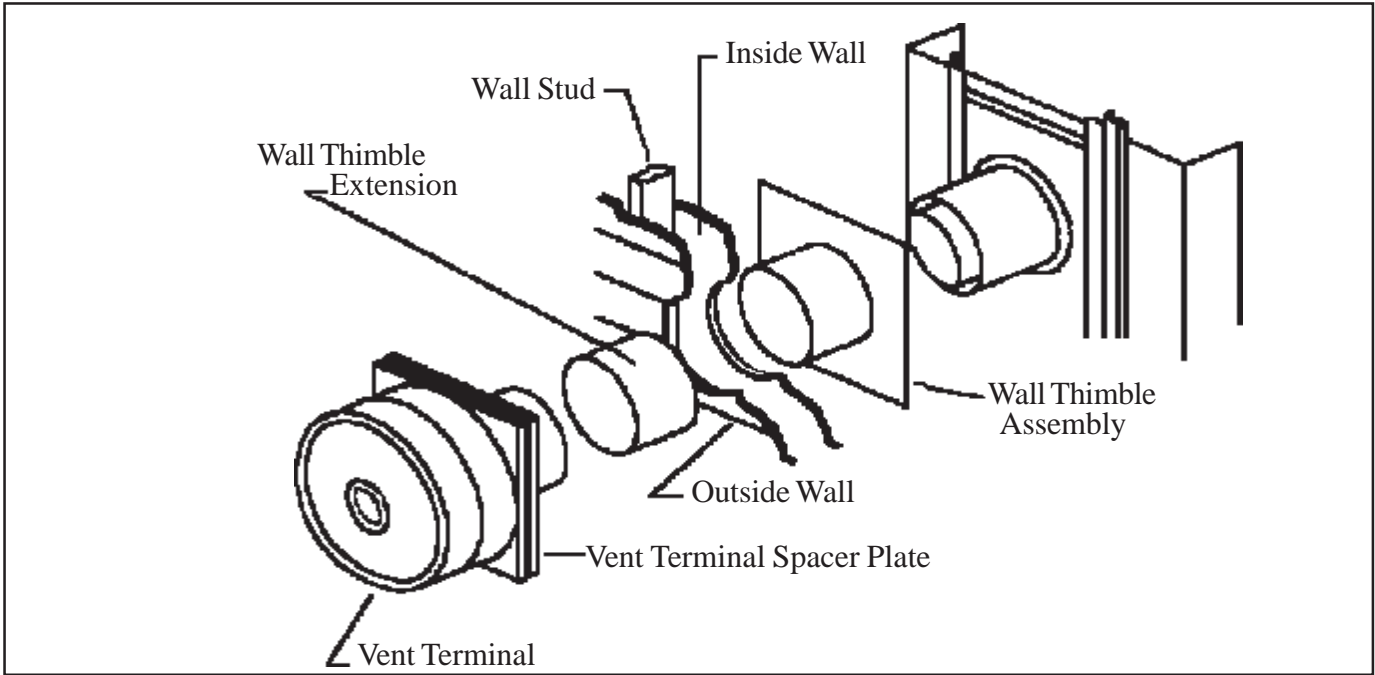

FIGURE 7
**STEP 3. INSTALLING FURNACE – 5" TO 9" WALLS.** Use only the exhaust tube, air intake tube, wall thimble extension, and vent terminal provided with furnace. Do not attempt to lengthen the exhaust or air intake tubes, this could cause an imbalance in the furnace resulting in poor performance and pilot outage, see Figure 6. Extend the telescoping wall thimble extension (surrounding the wall thimble assembly) to approximately 9 inches. Center the wall thimble assembly in the 9 inch opening and attach to inside wall using eight (8) screws. The wall thimble extension should extend through the opening and be adjusted so end of wall thimble extension is even with outside wall. Install furnace flush to wall by sliding exhaust tube and air intake tube through the wall thimble assembly. Secure the furnace to the wall with screws through each of the four holes in the mounting brackets located on the back of the furnace. These holes are spaced so as to allow the screws to enter into studs that are on 16 inch centers. On certain types of wall, anchors (not provided) may be required. Slide the vent terminal onto the exhaust tube and the air intake tube. Secure vent terminal and vent terminal spacer plate to wall providing a slight downward slope to the vent tubes. This will prevent water from entering. Anchors (not provided) may be required. Caulk around vent terminal spacer plate with putty provided. See Figure 7. NOTE: Some framing may be necessary to provide a flat surface for the vent terminal spacer plate to butt against, so rain cannot enter through cut out.
9” to 15” wall use Vent Kit No. VK1525/9-15-B. Do not attempt to lengthen the exhaust tube, air intake tube, or wall thimble extension provided with furnace or the VK1525/9-15-B Vent Kit. Disconnect the air intake tube, and the exhaust tube from the back of the furnace and discard. See Figure 6. Replace with exhaust tube and air intake tube from Kit No. VK1525/9-15-B. Discard the 5” telescoping wall thimble extension that surrounds the wall thimble assembly. Center the wall thimble assembly in the 9” opening and attach to inside wall using eight (8) screws. Install furnace flush to wall by sliding exhaust tube and air intake tube through the wall thimble assembly. Secure the furnace to the wall with screws through each of the four holes in the mounting brackets located on the back of the furnace. These holes are spaced so as to allow the screws to enter into studs that are on 16-inch centers. On certain types of wall, anchors (not provided) may be required. From outside the building install the thick wall thimble extension, Part No. 43835, supplied in Vent Kit No. VK1525/9-15-B by sliding it through the cut out and over the wall thimble assembly. The wall thimble extension should be even with the outside wall (some trimming may be necessary). Slide the vent terminal onto the exhaust tube and the air intake tube. Secure vent terminal and vent terminal spacer plate to wall providing a slight downward slope to the vent tubes. This will prevent water from entering. Anchors (not provided) may be required. Caulk around the vent terminal spacer plate with putty provided. See Figure 7. NOTE: Some framing may be necessary to provide a flat surface for the vent terminal spacer plate to butt against, so rain cannot enter through cut out.
For 15” to 24” wall use only Vent Kit No. VK1525/15-24-B. Do not attempt to lengthen the exhaust tube, air intake tube, or wall thimble extension provided with furnace. The VK1525/15-24-B Vent Kit has a one inch restrictor in the exhaust tube which is necessary for proper and safe operation of this furnace. Do not use any other vent kit. Disconnect the air intake tube and the exhaust tube from the back of the furnace and discard, see Figure 6. Install the exhaust tube and air intake tube from Vent Kit No. VK1525/15-24-B. Discard the 5” telescoping wall thimble extension that surrounds the wall thimble assembly. Center the wall thimble assembly in the 9” opening and attach to inside wall using eight (8) screws. Install furnace flush to wall by sliding exhaust tube and air intake tube through the wall thimble assembly. Secure the furnace to the wall with screws through each of the four holes in the mounting brackets located on the back of the furnace. These holes are spaced so as to allow the screws to enter into studs that are on 16-inch centers. On certain types of walls, anchors (not provided) may be required. From outside the building install the wall thimble extension, Part No. 43730, supplied in Vent Kit No. VK1525/15-24-B by sliding it through the cut out and over the wall thimble extension. For walls 15” to 19” the wall thimble extension, air intake tube, and the exhaust tube must be trimmed even with the outside wall. Slide the vent terminal onto the exhaust tube and into the air intake tube. Secure vent terminal and vent terminal spacer plate to wall providing a slight downward slope to the vent tubes. This will prevent water from entering. Anchors (not provided) may be required. Caulk around the vent terminal spacer plate with putty provided, see Figure 7. NOTE: Some framing may be necessary to provide a flat surface for the vent terminal spacer plate to butt against, so rain cannot enter through the cut out.
Kit No. VK33/9-15-B. Do not attempt to lengthen the exhaust tube, air intake tube, or wall thimble extension provided with furnace or the VK33/9-15-B Vent Kit. Disconnect the air intake tube, and the exhaust tube from the back of the furnace and discard. See Figure 6. Replace with exhaust tube and air intake tube from Kit No. VK33/9-15-B. Discard the 5” telescoping wall thimble extension that surrounds the wall thimble assembly. Center the wall thimble assembly in the 9” opening and attach to inside wall using eight (8) screws. Install furnace flush to wall by sliding exhaust tube and air intake tube through the wall thimble assembly. Secure the furnace to the wall with screws through each of the four holes in the mounting brackets located on the back of the furnace. These holes are spaced so as to allow the screws to enter into studs that are on 16-inch centers. On certain types of wall, anchors (not provided) may be required. From outside the building install the thick wall thimble extension, Part No. 43835, supplied in Vent Kit No. VK33/9-15-B by sliding it through the cut out and over the wall thimble assembly. The wall thimble extension should be even with the outside wall (some trimming may be necessary). Slide the vent terminal onto the exhaust tube and the air intake tube. Secure vent terminal and vent terminal spacer plate to wall providing a slight downward slope to the vent tubes. This will prevent water from entering. Anchors (not provided) may be required. Caulk around the vent terminal spacer plate with putty provided. See Figure 7. NOTE: Some framing may be necessary to provide a flat surface for the vent terminal spacer plate to butt against, so rain cannot enter through cut out.